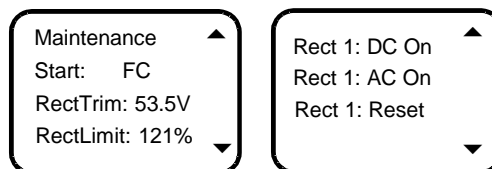

Figure 4-18 Maintenance screen
3. Input the password and press the ENT key to enter the Maintenance screen (displayed in two screens), as shown in Figure 4-18.
Use ▲ or ▼ to select the rectifier parameter, and use ◀ or ▶ to change the rectifier serial No.. Then press the ENT key to confirm. The bottom row of the screen displays the rectifier ID automatically. Use ▲ or ▼ to move the cursor to the operation area (that is, 'DC On' in Figure 4-18), and use ◀ or ▶ to select the value, and then press the ENT key to confirm.